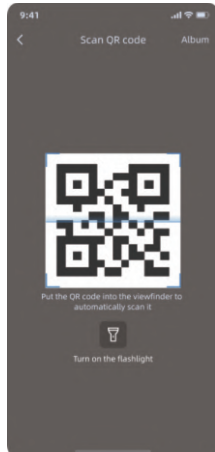

Figure 1
1)Figure 1: Place the other party's QR code into the viewfinder, and after successful scanning, select the device to share;When the light is dim, click "**Turn on the flashlight**" to turn on the flashlight for auxiliary scanning.